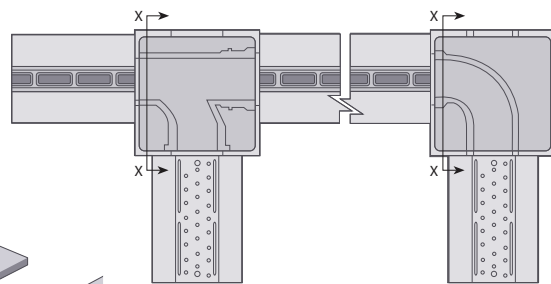

Fig 5a. Safeticurb junction bends
**Safeticurb:** Use silt box top at outlets or with suitable uPVC pipe fittings (cut to fit) to form junctions or sharp bends (see Figs 5a, 5b).